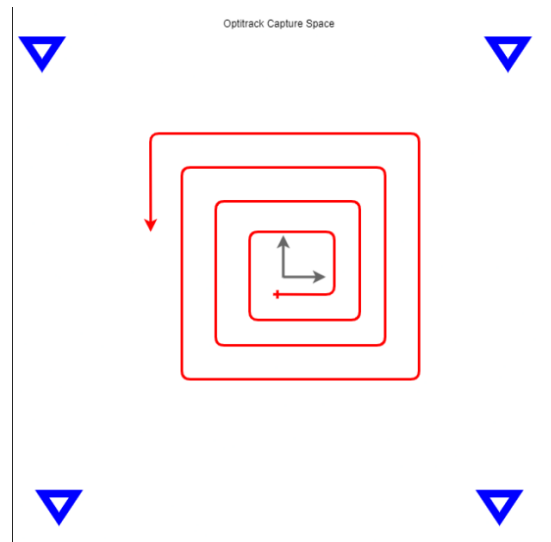

Figure 5: The path of the tag (red) relative to the UWB anchors (blue triangles)
- a. Place 2 diagonal anchors 'high' (see Figure 5)
1. Mark the path as visualized in Figure 5 on the floor